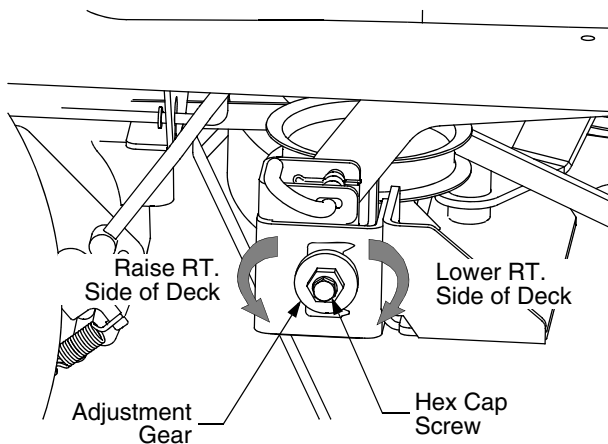

Figure 33
- Loosen, but do not remove, the hex cap screw on the right deck hanger bracket. Refer to Figure 33.
- Level the deck by using a wrench to turn the adjustment gear (found immediately behind the hex cap screw just loosened) clockwise to lower the right side of the deck, or counterclockwise to raise the right side of the deck. See Figure 33.